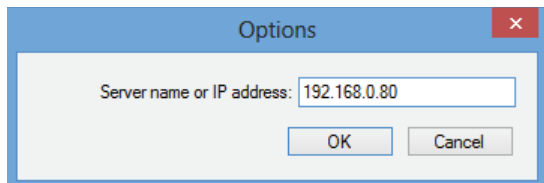

figure 59.3: Options window
- 1 Go to *File > Options*. A screen similar to the one in figure 59.3 appears.